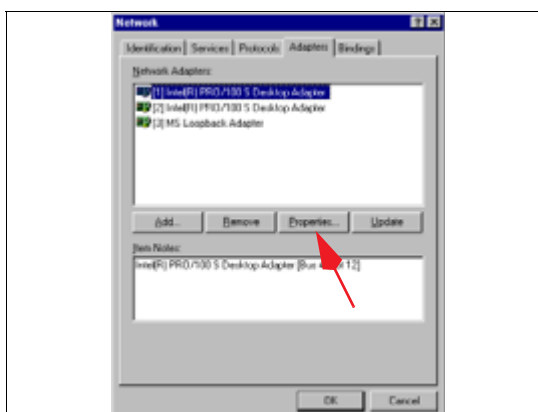

Fig. 1: Network adapters
- Select **Properties** (Fig. 1 / p. 18)